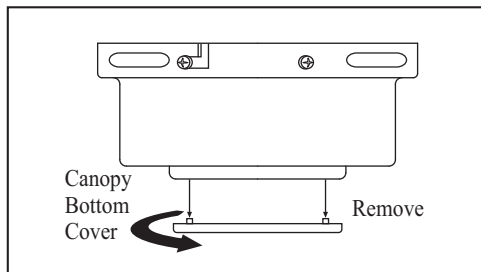

Figure 8
3. Remove the decorative canopy bottom cover from the canopy by turning the canopy bottom cover counterclockwise. (Figure 8)